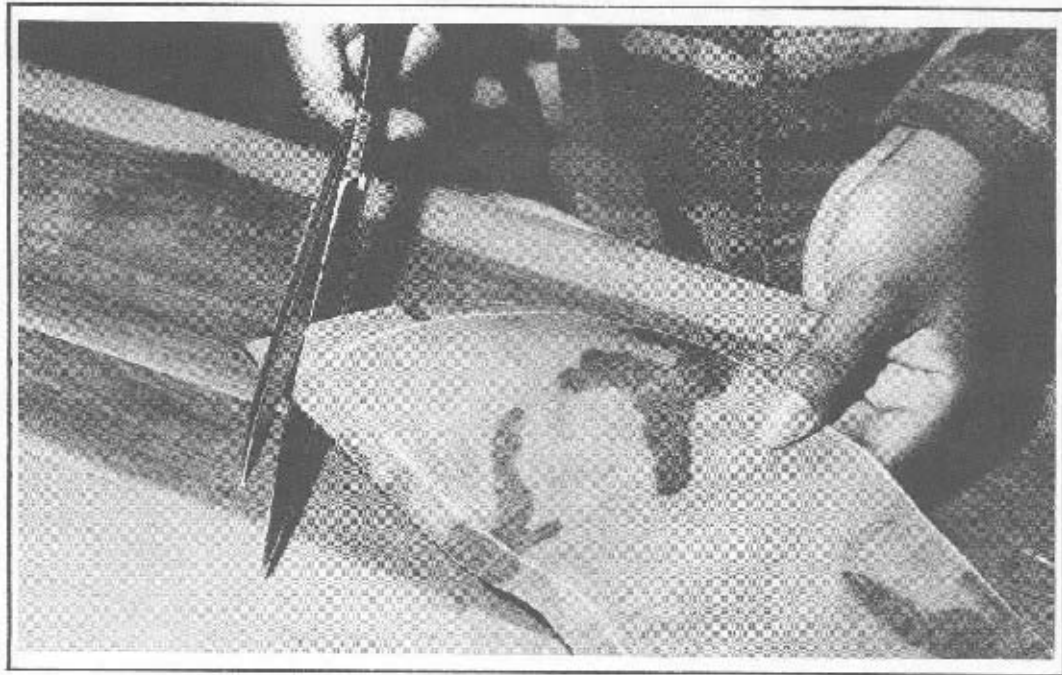

Figure 3-72
- b. Finish the seam type 6 with a 1-inch tack by overlapping the 1/4-inch stitch row at the beginning point. (See Figure 3-72, 3-73, and 3-74)